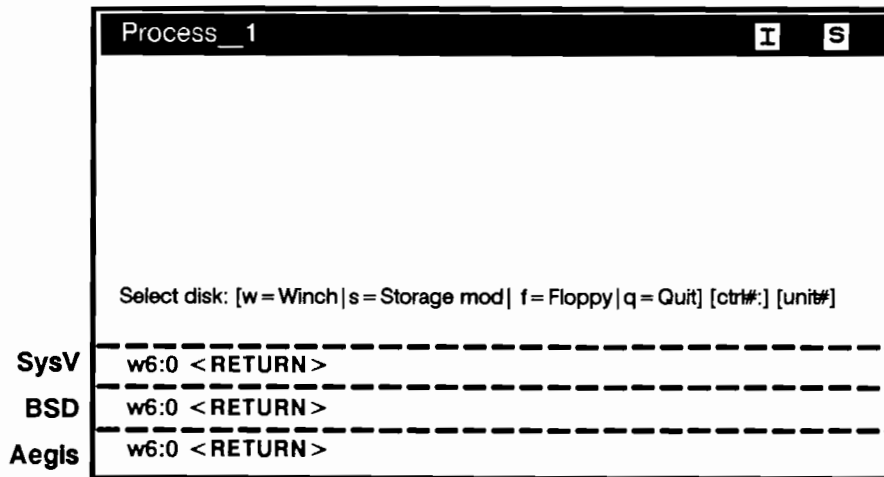

Figure 3-52. *invol* Prompt to Identify Primary Disk in Set
17. The **invol** utility prompts for the identity of the first disk in the multidisk set as shown in Figure 3-52.